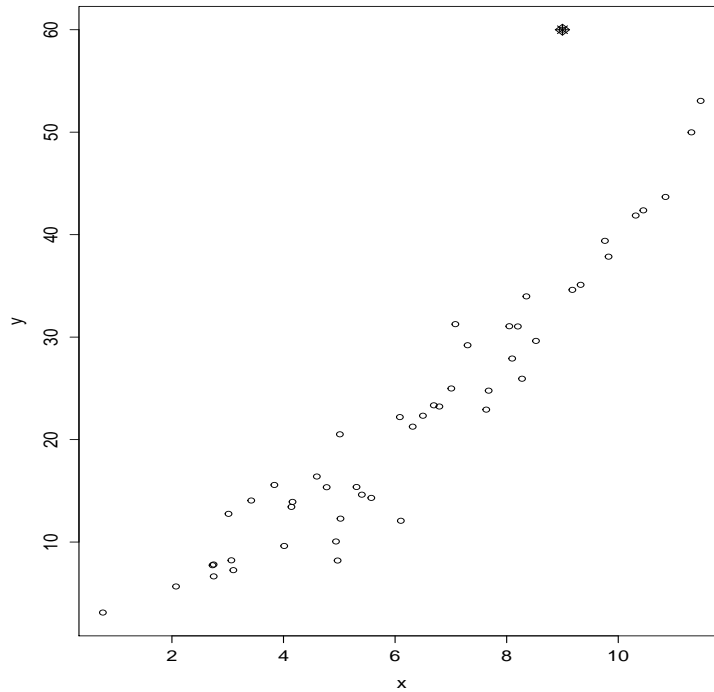

Figure 3: Question 2: scatter plot
b) I proceed with modeling without taking any additional steps (but I'm not saying that is optimal - this is simply because of the exam setting leaving part a) for you to discuss...). I summarize the fit with the table below and the diagnostic plot in Figure 3. Discuss and interpret the results. What have we learnt about factors that influence female life expectancy? Any limitations/concerns? Any particular information missing you think is relevant for the discussion?